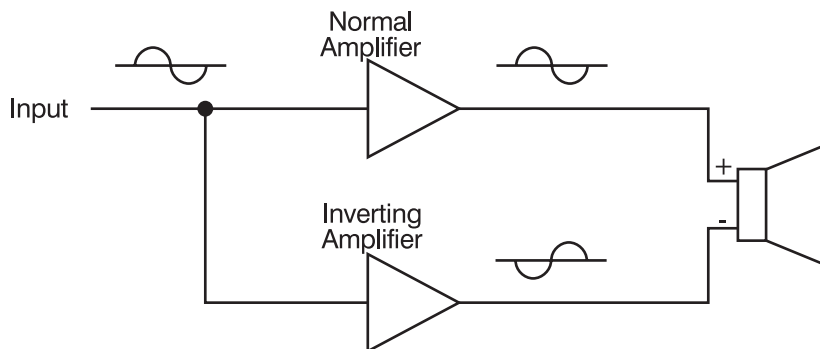

Figure 6. How bridged, floating outputs work.
3. Use two amplifiers in "bridge" configuration. This is the infamous "floating output" connection. Figure 6 shows how it works. Basically, as amplifier 1's output is going positive, amplifier 2's output is going negative, by exactly the same amount. The net result is that the power supply voltage is doubled, which means four times the power into the same impedance. For example, if one amplifier would deliver 3.5 watts into a 4 ohm load, then two amplifiers in bridge connection would deliver 14 watts into the same 4 ohm load.